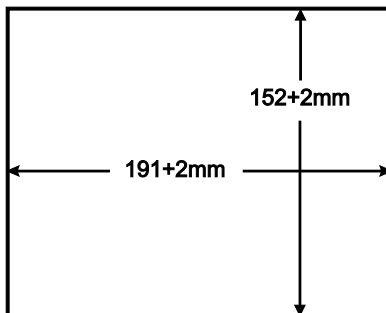

Figure 9: Cut Out Dimensions
3. Following the **inside** edge of the template, cut a hole in the table surface with a sabre or keyhole saw according to the dimensions shown in Figure 9 (not to scale).